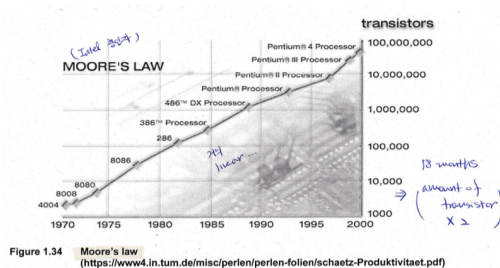

Figure 1.34 Moore's law
- **Moore's law** (1965): the amount of transistors in a computer is doubled all 18 months. **Figure 1.34, page 1-22**